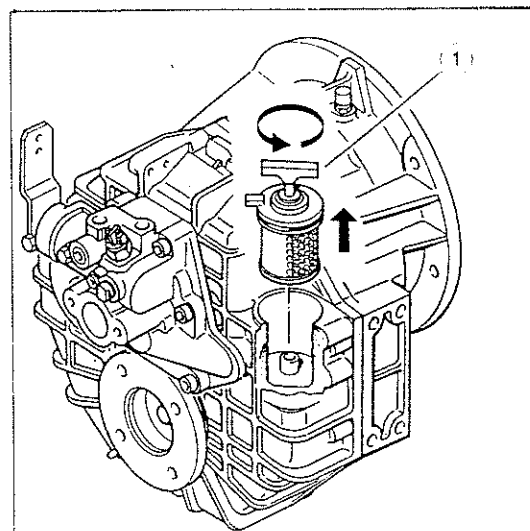

Figure V-3
2.1.1 Turn the filter cover (figure V-3, item 1) counterclockwise and gently pull out of the housing.